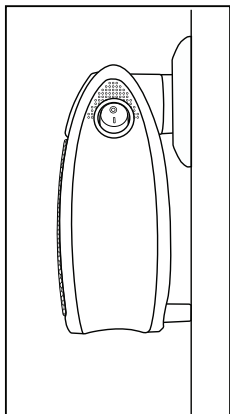

Fig. 1
- The appliance may only be operated in an upright position and fully assembled. The spacers ⑩ must touch the wall (see fig. 1).